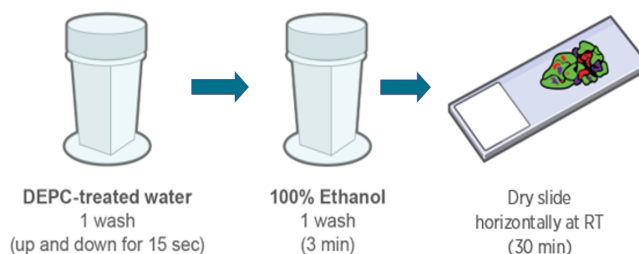

Figure 30: Water and Ethanol Wash
7. Immediately transfer all slides to staining jar containing fresh DEPC-treated water. Move slides up and down for 15 seconds to wash slides Figure 30.